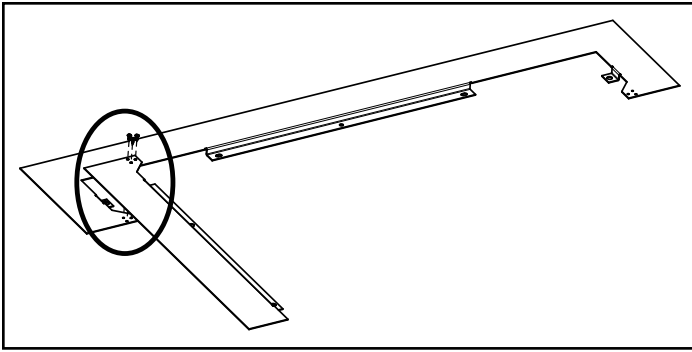

Figure 22.1
- 1. Align holes from Surround Extension RH Side and Surround Extension Top (Figure 22.1).
- 2. Using a Phillips head screwdriver and three (3) #8 x 1/2 Phillips head screws; secure Surround Extension RH Side to Surround Extension Top (Figure 22.1).